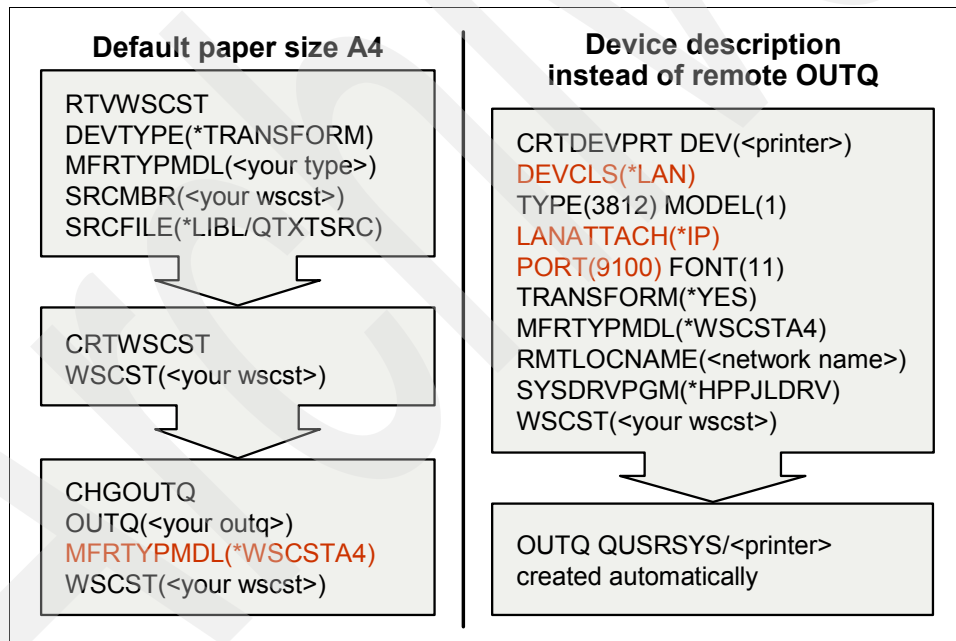

Figure 15-19 Create a WSTCST or a device description
- ▶ Creating a remote output queue is probably the easiest way to configure a network printer for the System i server. In Figure 15-19, two modifications are described that can be useful in some cases.
- ▶ Instead of a remote output queue, you can also create a device description as shown in the right part of Figure 15-19 on page 232. The advantage is a better feedback handling in case of errors.